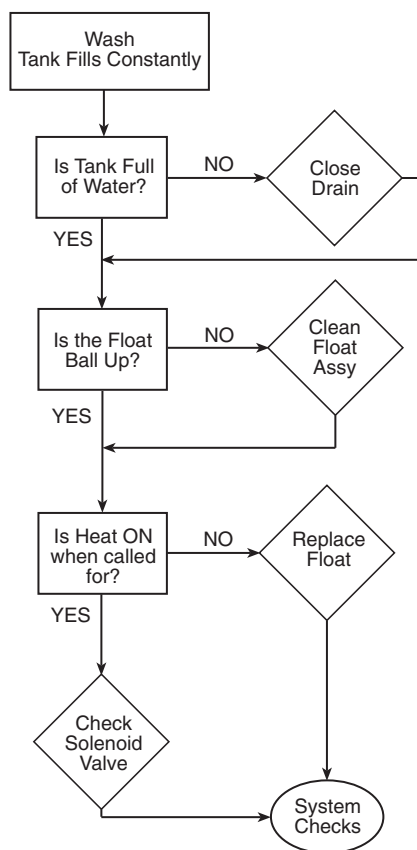

Figure 17
5. Refer to the float switch troubleshooting chart below (Fig.17) for a quick guide to evaluating float switch problems.